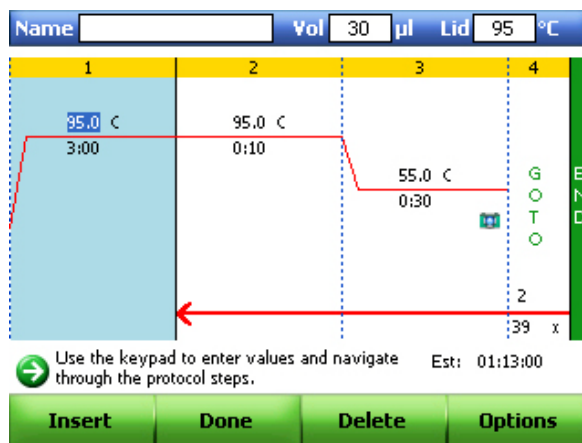

Figure 38. Default real-time PCR protocol.
1. Select **New Protocol (F4)** in the start-up screen to open a new protocol template (Figure 38).
- (Optional) To insert a new step, select the **Insert** (F1) button. To delete a step, select the **Delete** (F3) button (Figure 38).
- (Optional) To change step options, select the **Options** (F4) button (Figure 38). In the **Step Options** window, select a parameter to change, including the temperature and time of the step, or add/remove a plate read to the step (Figure 39).
- When creating a new protocol, you have the option to save it with a name. Use the arrow keys to navigate to the Protocol **Name** box and then press the alphanumeric keys to type a new protocol name (Figure 38)
- To change the default sample volume, select the sample volume box (**Vol**) (Figure 38). Use the alphanumeric keys to enter a new sample volume in microliters.
- To change the default lid temperature, select the lid temperature box (**LID**) by pressing the arrow keys (Figure 38). Use the alphanumeric keys to enter a new temperature. For the CFX96 system, use a lid temperature of 105°C; for the CFX384 system use a lid temperature of 95°C
1. To run the protocol, click the **Done** (F2) button in the Protocol window (Figure 38).